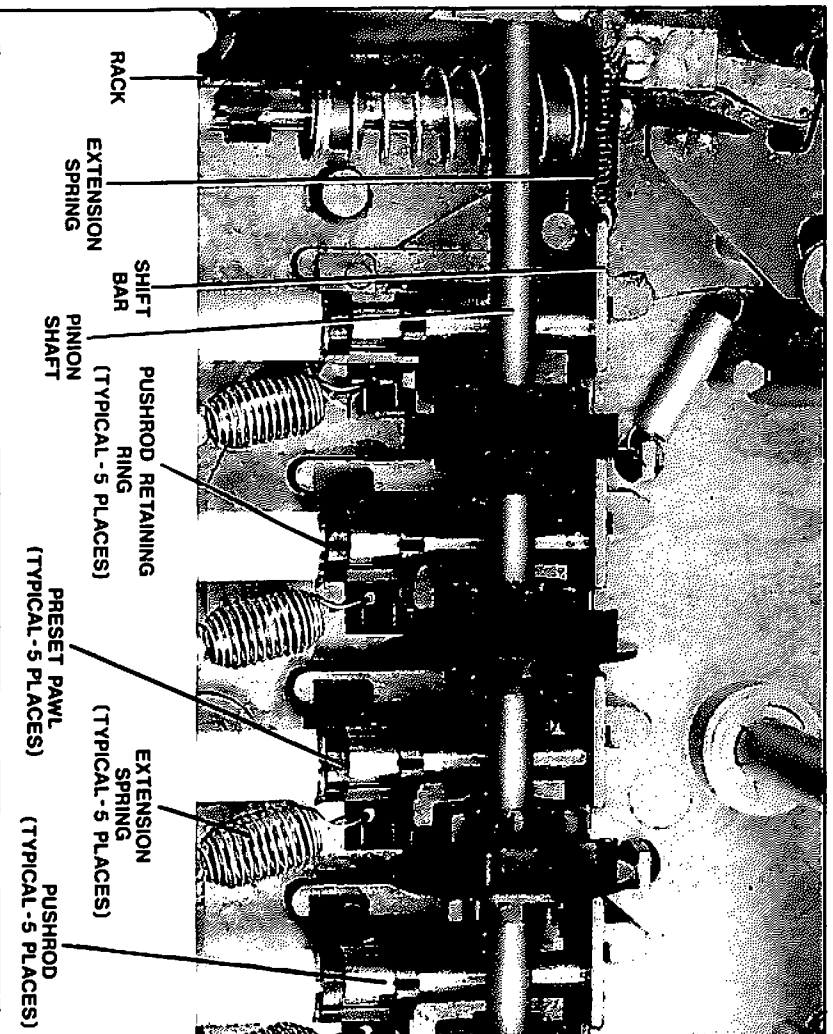

Figure 11. Meter Preset Parts Identification (Wheels Removed).
1. Remove extension spring from between Preset base and applicable Preset pawl (Figure 11).
2. Depress pushrod and remove retaining ring (Figure 11).
3. Remove pushrod and damaged Preset pawl (Figure 11).
4. Install new Preset pawl (Figure 11).
5. Install pushrod and retaining ring (Figure 11).
6. Install extension spring between Preset base and Preset pawl (Figure 11).